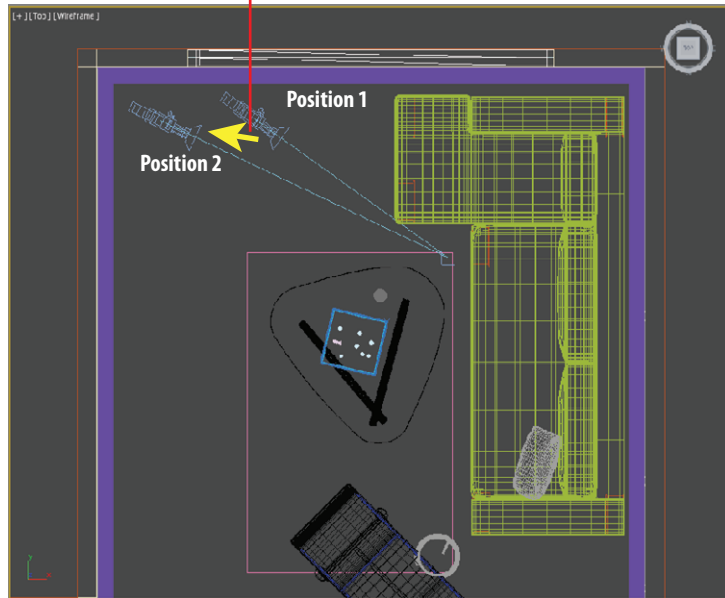

FIGURE 15.10 Move the camera in the Top viewport.
5. Look in the Camera001 viewport, and then move the time slider through the animation. Press the N key again to turn off Auto Key. The camera should just move away from the chess set toward the window, as shown in Figure 15.10. Don't worry if your camera position isn't the same as in the figure.